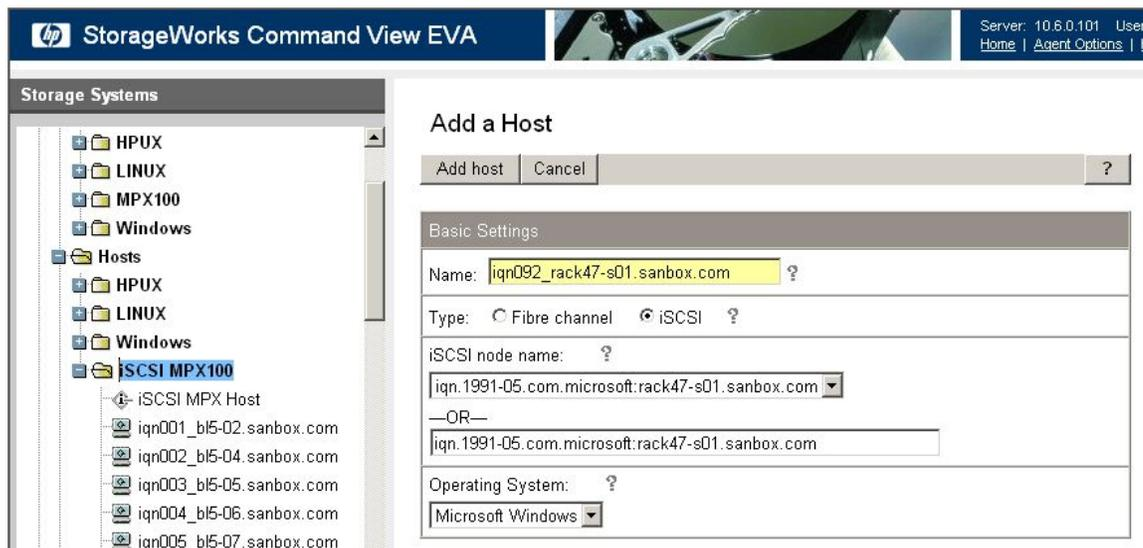

Figure 67 Add a host for Command View EVA
1. Click **Add Host** under the Hosts folder. In the Add a Host screen (Figure 67) click the **iSCSI** radio button in the Type field. The Basic Settings screen is automatically refreshed to the iSCSI fields necessary to create an iSCSI host entry.